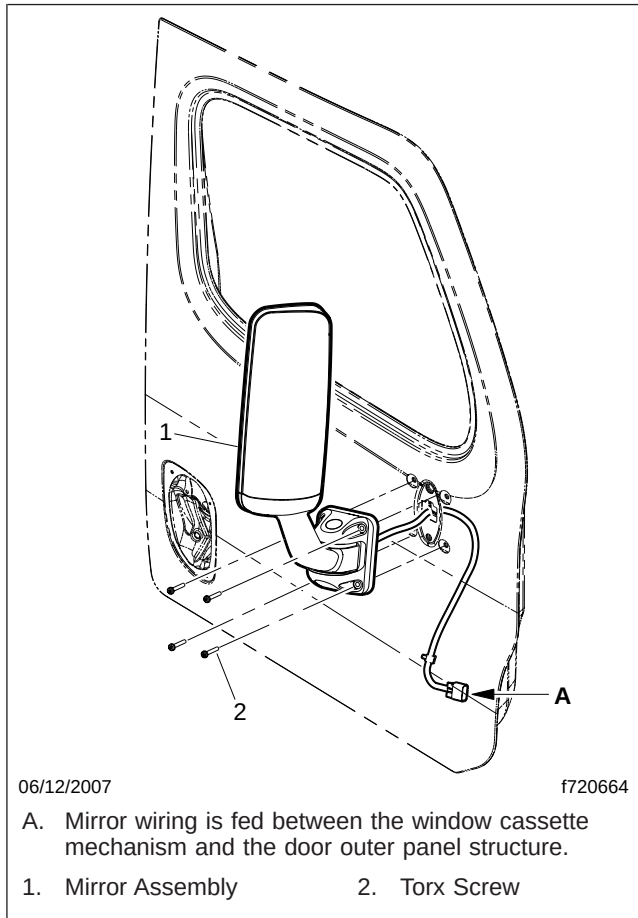

Fig. 3, Mirror Assembly Installation
6. Close the door, then remove the four Torx screws that attach the mirror mounting bracket to the door. See Fig. 3. Support the mirror so as not to damage the door finish.
feed it down between the window cassette and the door outer panel structure. Make sure that the wiring does not bind up in the window mechanism. See Fig. 3.